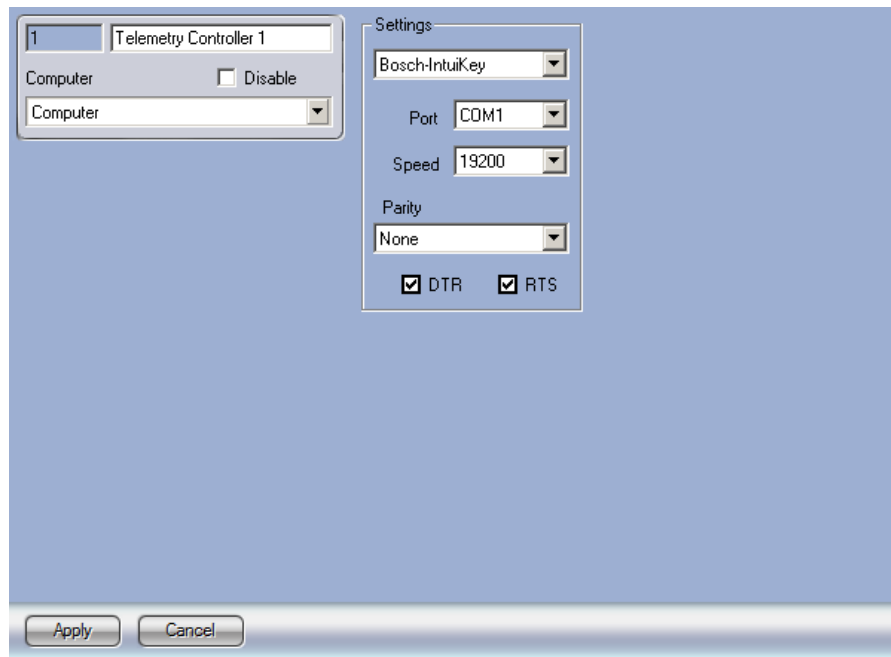

Figure 3.4-7 Configuring the Control panel object for BOSCH 12c-KBD-Digital operation
2. Configure the **Control panel** object as follows (Figure 3.4-7):